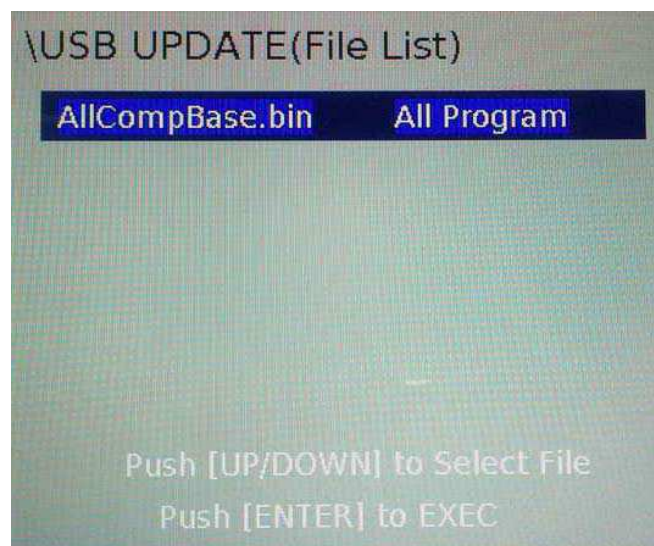

fig. 1.1
4. a few later the update menu will appear, shown as figure 1.1